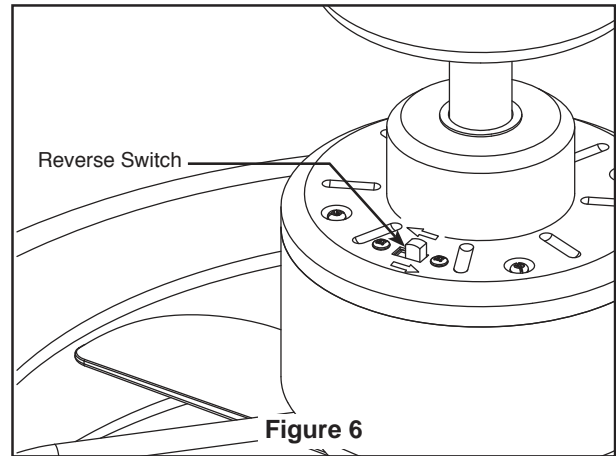

Figure 6
- 6.** If airflow is desired in the opposite direction, turn the fan off and wait for the blades to stop turning. Then slide the reverse switch on top of motor assembly to the opposite position and turn fan on again. (Figure 6)